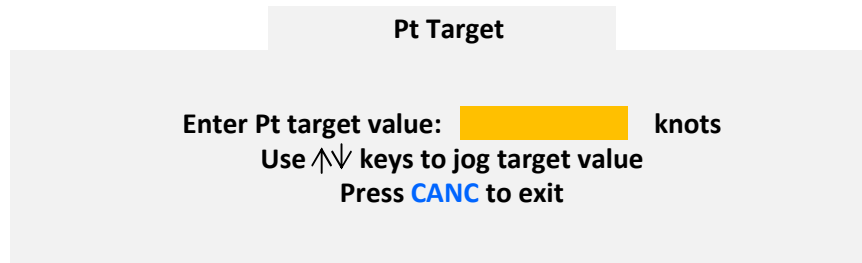
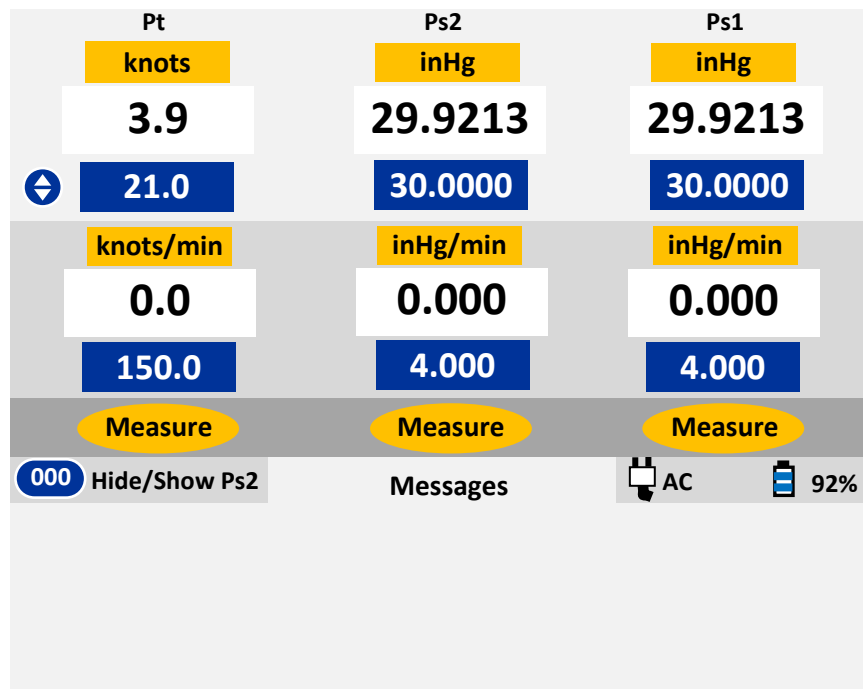

Figure 3.11 : Pt Target value
Figure 3.12 : Jog the Pt Target value
The Pt Target value can be changed only if the key# symbol (2) is displayed to the left of the Pt Target value field. Press key '2' on the keypad and the Lower section of the display will appear as shown in Figure 3.11 below.
If the Target value needs to be changed in small increments, instead of entering a value, the arrow keys may be used to Jog the Target value up or down. If the current Pt Target value is 20.0 knots, and the Lower screen appears as in Figure 3.11 above, pressing the **Up-Arrow** key will make the screen appear as shown in Figure 3.12 below.